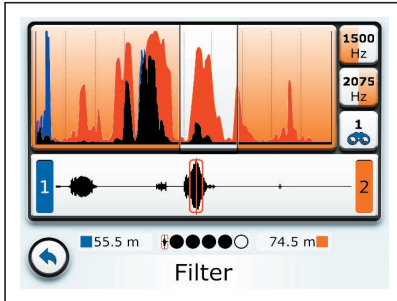

Fig. 20: **Filter** menu
The **Filter** menu will return to its default view (fig. 20). The second filter limit is set. The **Manual** symbol is visible on the **Current filter** button.
3. Apply the filter limit by tapping **Confirm**. The **Filter** menu will appear again in its default view (fig. 20). The **Manual** symbol is visible on the **Current filter** button.